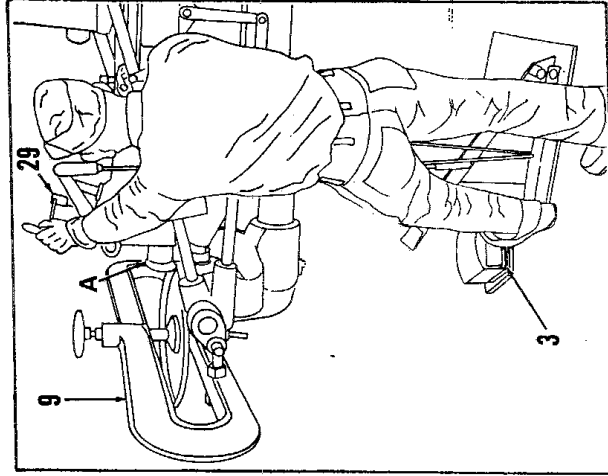

Fig. 14
5. Remove foot from switch. Raise upper flanging roll (A) (Fig. 14) to clear formed piece. Lower the flanging attachment (9) and remove the formed piece from the clamping discs.